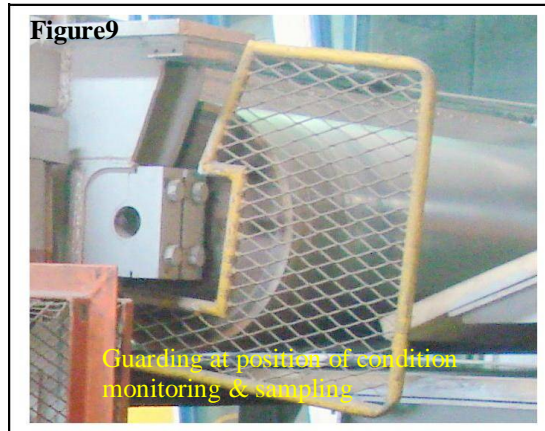

Figure: 8 Lubrication points
2.6.1.1 The guards must be designed to reduce the need to remove them. For example provide access to tracking mechanisms in figure 8: (A) and greasing points (B).